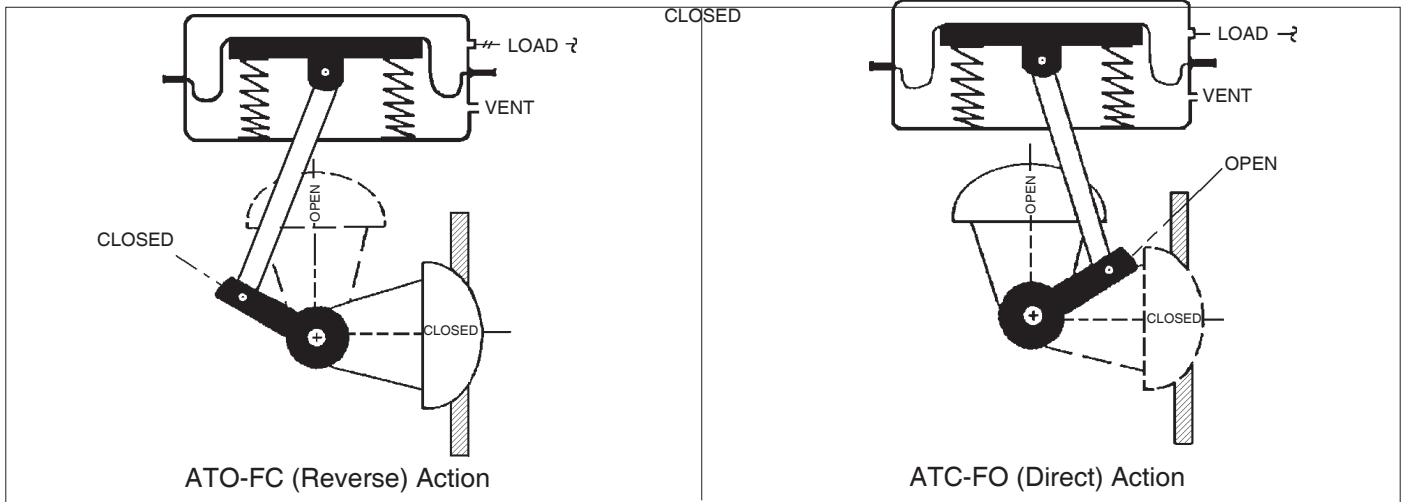

Figure 13:
8. Reposition actuator assembly (AA) as required to align the three remaining bolt holes securing yoke (12) with arm housing (4). Insert the three cap screws (24) and finger-tighten.
9. Use cardboard, or some tool that can provide approximately 1/32" (0.80 mm) thickness, and wedge three such spacers between the circumferential edge of dust cover plate (23) and the round opening in the arm housing (4).
10. Wrench-tighten in one-half revolution increments and alternating cross-pattern the four cap screws (24) securing actuator assembly (AA) to body assembly (BA). Final tightening should be by torque wrench to 30-35 ft-lbs (40-47 N-m).
- a. Secure characterization cam (12) properly oriented over the two rolled spring pins (50) stuck into the inner lever arm (5).
- b. Place the outer lever arm (5) over the two spring pins (50) with the bolt holes aligning. Press the apparatus (5,50,50,5) together.
- a. Similar to 11A. above, except a spacer washer (12) replaces the cam (12) of a Model 73N-B P/P positioner.
12. Position valve plug (Ranger (6))/ disc (Premier (3.1) in the proper "Full Closed" or "Full Open" position. **NOT FOLLOWING THIS ARTICLE WILL CAUSE MECHANICAL DAMAGE TO THE UNIT'S (AA, BA) MECHANISM!** See Figure 13.
13. Place properly oriented lever arm apparatus (5,50,12,50,5) over shaft's (Ranger (7), Premier (3.2)) square end and push into place while holding lower L.H. rod end (9) "swung" aside so as to not interfere. **NOTE: For units (AA, BA) with 73N-B P/P positioner, it will be necessary to "swing" the feedback linkage subassembly ((72)) out of the way as the lever arm apparatus (5,50,12,50,5) is pushed into place.** Center-align lever arm apparatus (5,50,12,50,5) transversely within the arm housing (4), directly over stop screw (35).
- 14A. For units (AA, BA) with Model 73N-B P/P positioner: Place indicator spacer (17) over end of shaft (Ranger (7), Premier (3.2)) properly oriented for travel indicator (16) to be "located" by spring pin (51). See Fig. 13.
- 14B. For units (AA, BA) with Model 9540R P/P positioner or 991 oR PS2 I/P positioner: Reference the IOM-9540R or 991 or PS2 for proper instructions on reinstallation of indicator spacer (17) and drive coupling ((32)).
15. Align the bolt holes in lever arms (5) and lower L.H. rod end (9). **NOTE: For units (AA, BA) with ATO-FC action it will be necessary to offset "stem windup" by –**
- a. Rotating manual handwheel operator (MHWO) handwheel (58.1) approximately 1-3 revolutions CW (viewed from above handwheel) until the bolt holes of lever arms (5) and lower L.H. rod end (9) are aligned.
- b. Pressurize actuator casing (1) only until the bolt holes of the lever arms (5) and the lower L.H. rod end (9) align.
16. Insert shoulder bolt (40) through the round opening of the arm housing (4) and into the bolt holes of lever arms (5) and lower L.H. rod end (9).
17. Ensure that lever arm apparatus (5,50,12,50,5) is transversely centered within the arm housing (4). Engage lock nut (46) together with shoulder bolt. Wrench-tighten to a torque of 15-20 ft-lbs (20-27 N-m).
18. Place ball bearing (18) into cover plate (13). Place cover plate (13) into arm housing (4) in correct orientation. There should be a problem with the cover plate (13) not aligning properly. Slowly remove the "stem windup" introduced in Article 15 above by reversing the loading forces from the manual handwheel operator (MHWO) or the air pressure to actuator upper casing (1). Removal of the forces will allow the cover plate (13) bolt holes to align with those of the arm housing (4), and allow the cover plate (13) to properly shoulder into the arm housing (4).
19. Secure cover plate (13) to arm housing by engaging the four cap screws (34) into the arm housing (4); finger-tighten. In a crossing pattern wrench-tighten the four cap screws (34) in 1/4 revolution increments using a 7/32" allen key wrench until firmly tight. **NOTE: Ensure that cover plate (13) is shouldered properly into position on back side.**